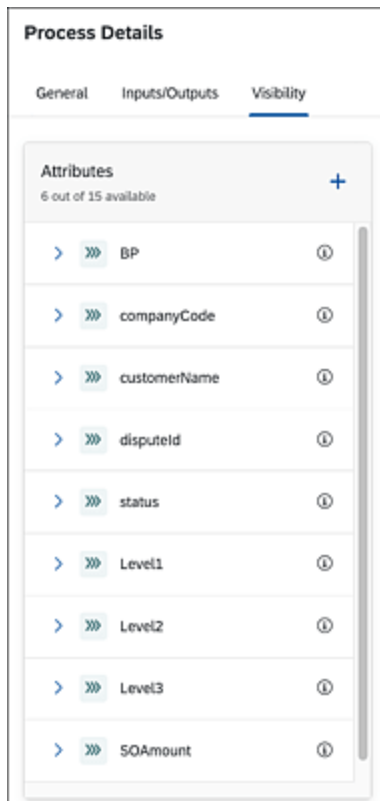

Figure 19.3 Required Attributes Added
5. Follow the same approach to add other attributes as well (see Figure 19.3).